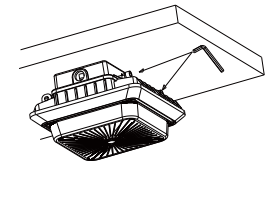

Figure 2-8
8. Lock the two cap screws, the product is installed. Figure 2-8